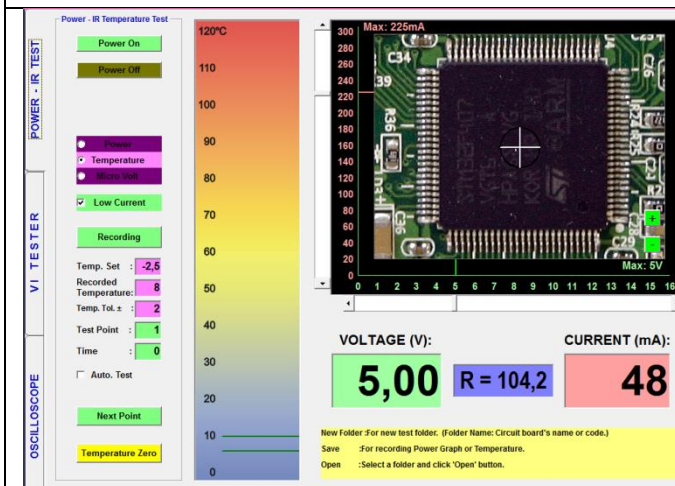

Figure 47: Opening the Recorded Data (Step 5)
6. The IR sensor is position on a point on the desk (**a few mm above**) and the "Temp Zero" button is pushed. (Figure 47)